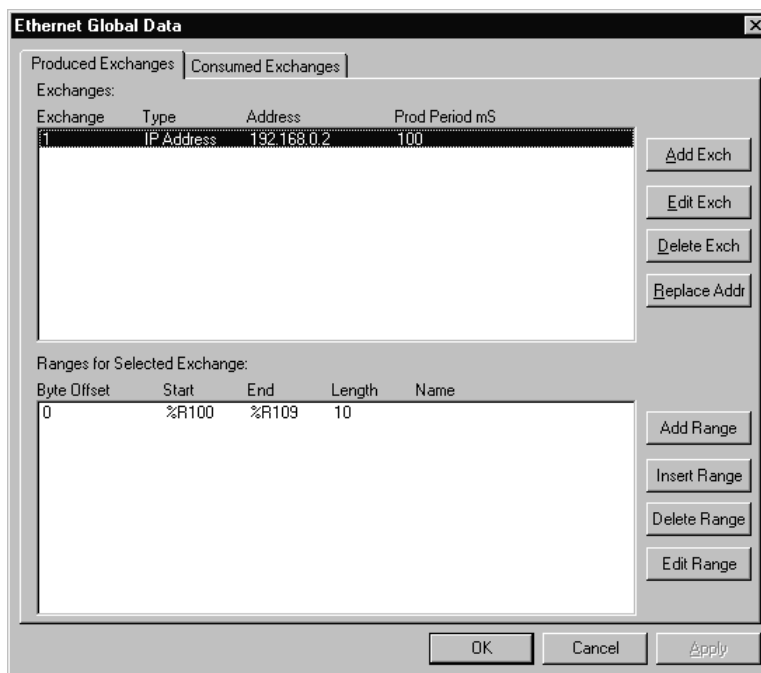

Figure 6.10 – Configured Produced Exchange 1 - Node 1
At this point, the Produced Exchanges tab in the EGD Configuration dialog should be as shown in Figure 6.10.
1. On the main Cscape screen, select **Open** from the **File** menu and open the saved Node 1 user program (**EGD Node 1.csp**). Then open the Ethernet Module Configuration dialog (Figure 6.7 [page 40]) and click on the **Config** button next to the **EGD (Ethernet Global Data)** checkbox to open the EGD Configuration dialog (Figure 6.10 [page 44]).